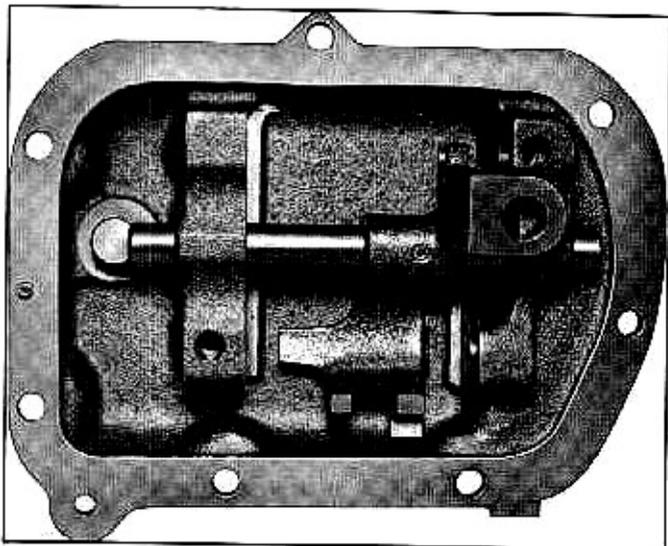

Fig. 3B—3-4 Shifter Shaft & Head Installed to Cover
6. Line up holes in head and shaft, insert roll pin. All head attaching pins are the same. (Fig. 3B)